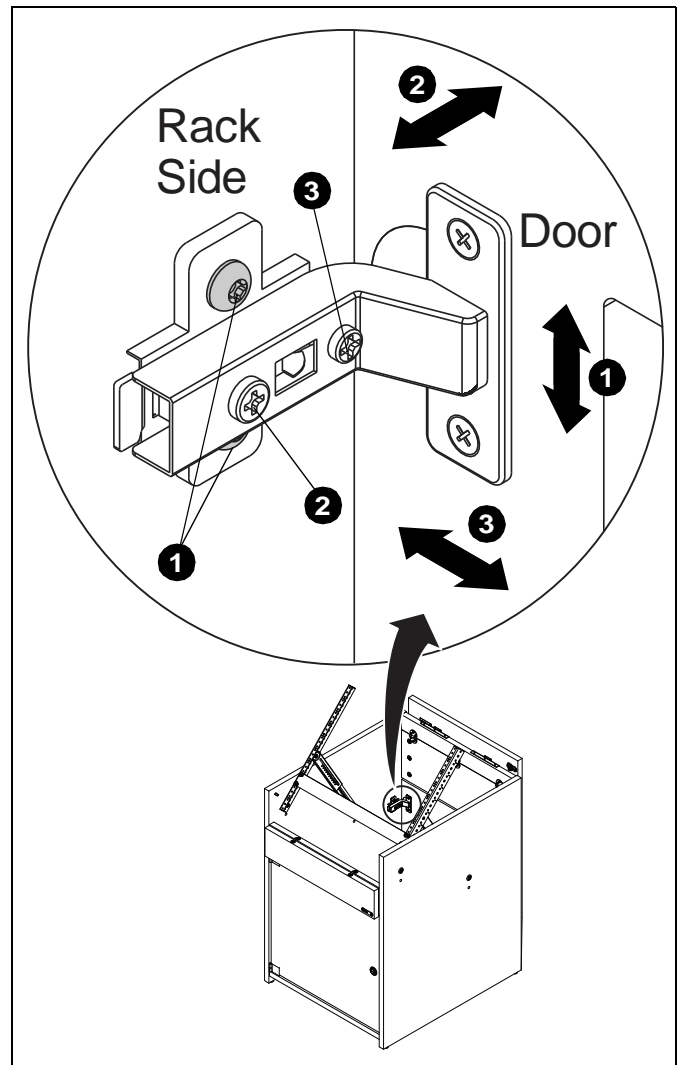

Figure 2
If necessary, the door hinges may be used to adjust the depth, horizontal or vertical placement of the door (See Figure 2).
1. Adjusting these screws will allow vertical adjustment (up and down) of the door. (See Figure 2)
2. Adjusting this screw will allow depth adjustment (into and out from rack) of the door. (See Figure 2)
3. Adjusting this screw will allow horizontal adjustment (side to side) of the door. (See Figure 2)